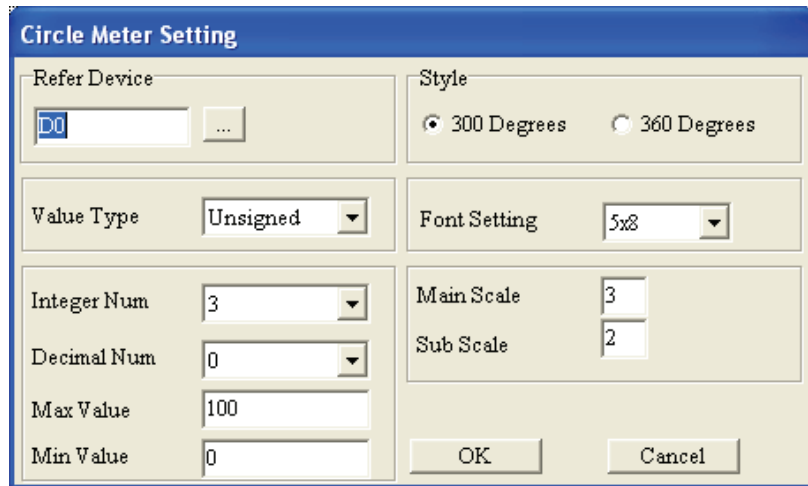

Figure 1-83
Step 1. Choose **Object(O) > Meter(E)** command from the menu bar or click the icon  on the Toolbar. Then, move the mouse on the editing screen area, the cursor will be a +. Left click and drag the mouse in the editing screen area. After releasing the mouse, the square  will be made on the screen. Double-click the square  by using the mouse, the following Circle Meter Setting tab will pop up (Figure 1-83).